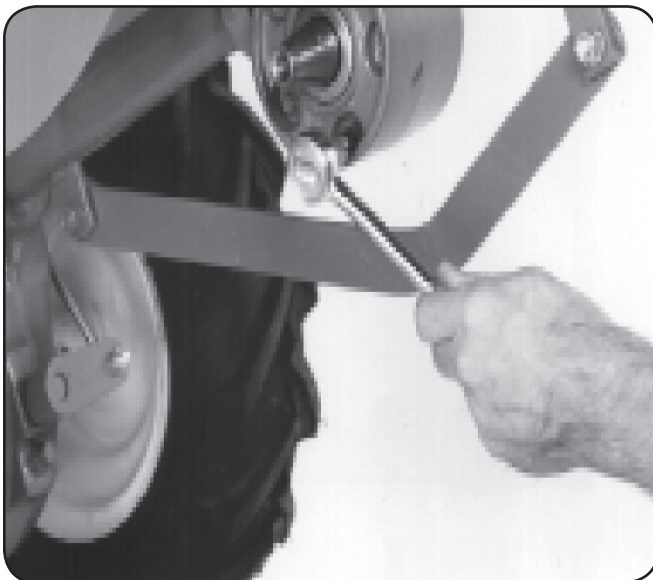

Figure 6-9
- For complete drainage, remove the left-side tine assembly (See Tine Replacement in the Service section.), then remove just one of the lower screws from the tiller housing cover. See Figure 6-9. To speed drainage, remove the tine attachment dipstick to vent transmission.